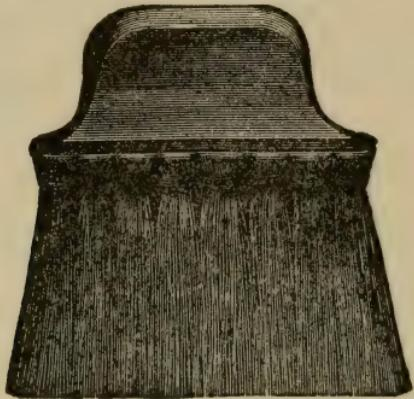

Fig. 24—Paperhanger's Paste Brush.
*q.* The *paper hanger's paste brush* is specially made so as to rub out paste easily, but many paper hangers use a worn out calcimine brush instead. It is illustrated in Fig. 24.